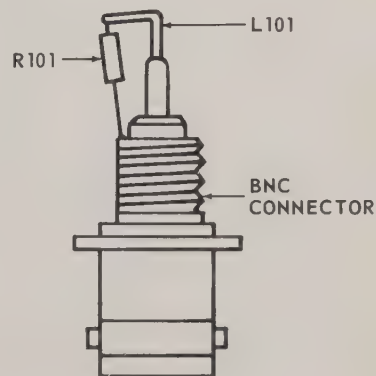

Figure 5.
4. The resistor (R101) is soldered to the fitting as shown in Fig. 5. When replacing this resistor the leads should approximate the same position as on the original resistor.